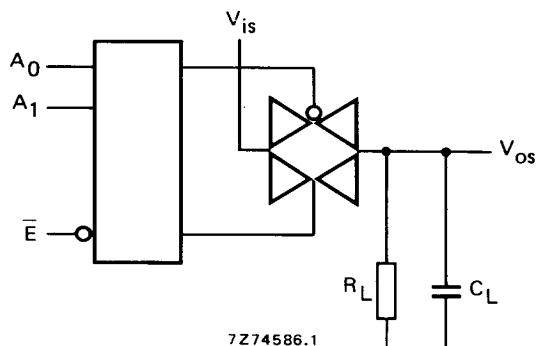

Fig. 8.
- $R_L = 10\text{ k}\Omega$  to  $V_{EE}$ ;  $C_L = 50\text{ pF}$  to  $V_{EE}$ ;  $\bar{E} = V_{SS}$ ;  $V_{is} = V_{DD}$  (square-wave); see Fig. 8.
- $R_L = 10\text{ k}\Omega$ ;  $C_L = 50\text{ pF}$  to  $V_{EE}$ ;  $\bar{E} = V_{SS}$ ;  $A_n = V_{DD}$  (square-wave);  $V_{is} = V_{DD}$  and  $R_L$  to  $V_{EE}$  for  $t_{PLH}$ ;  $V_{is} = V_{EE}$  and  $R_L$  to  $V_{DD}$  for  $t_{PHL}$ ; see Fig. 8.
- $R_L = 10\text{ k}\Omega$ ;  $C_L = 50\text{ pF}$  to  $V_{EE}$ ;  $\bar{E} = V_{DD}$  (square-wave);  $V_{is} = V_{DD}$  and  $R_L$  to  $V_{EE}$  for  $t_{PHZ}$  and  $t_{PZH}$ ;  $V_{is} = V_{EE}$  and  $R_L$  to  $V_{DD}$  for  $t_{PLZ}$  and  $t_{PZL}$ ; see Fig. 8.
- $R_L = 10\text{ k}\Omega$  to  $V_{EE}$ ;  $C_L = 15\text{ pF}$  to  $V_{EE}$ ;  $\bar{E}$  or  $A_n = V_{DD}$  (square-wave); crosstalk is  $|V_{os}|$  (peak value); see Fig. 8.